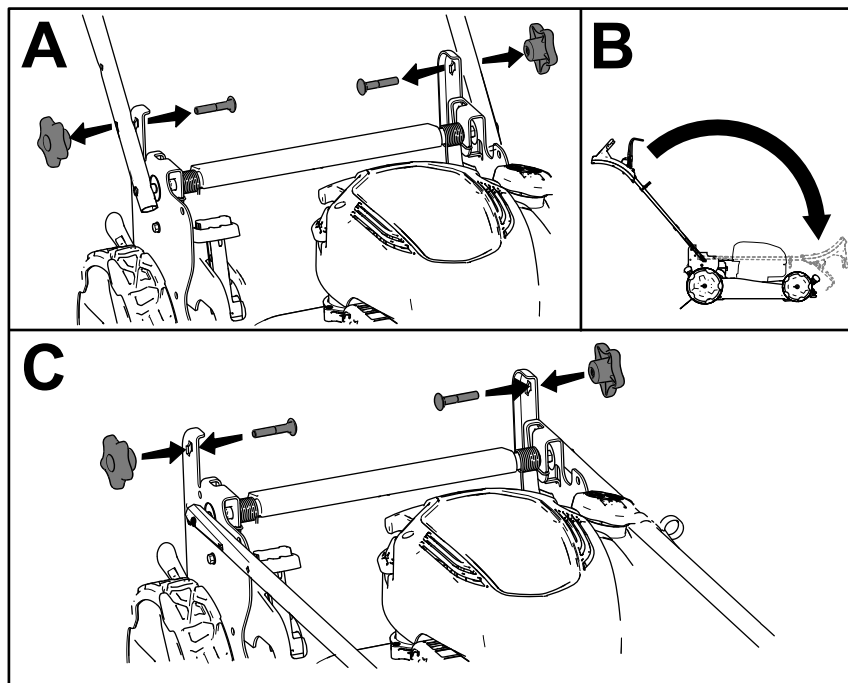

Figure 24
1. Remove and save the 2 handle knobs and 2 carriage bolts from the handle brackets (A of Figure 24).
2. Fold the handle by rotating it forward (B of Figure 24).
3. Loosely install the handle knobs and carriage bolts on the handle brackets (C of Figure 24).